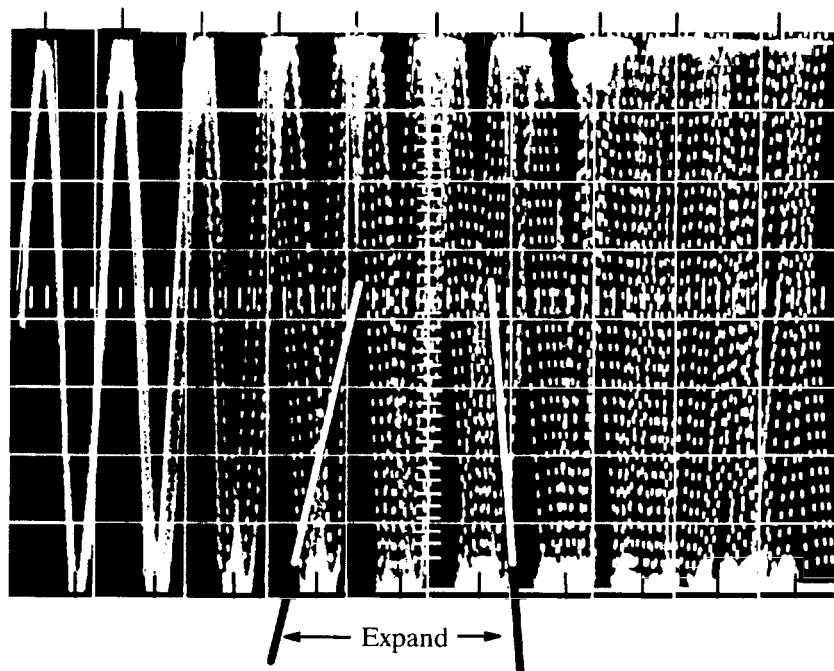
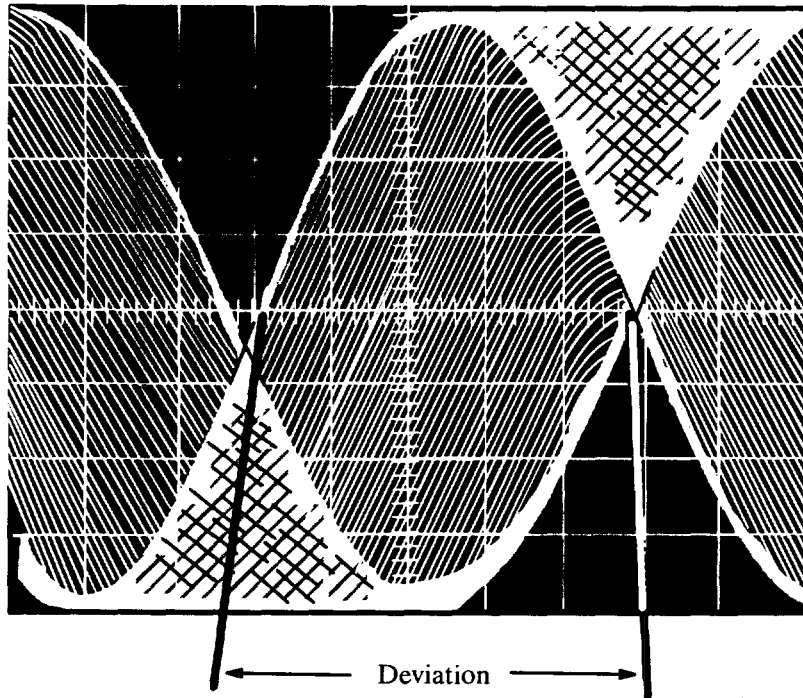

Figure 1. FM Deviation Display
Figure 2. 9960 Hz Deviation (Expanded)
- 4.5.17 Adjust the oscilloscope trigger and position controls to vertically center the TI 9960 Hz signal on the oscilloscope CRT display, and position the sweep trigger point at the left edge of the horizontal center line. (See Figure 1.)
- 4.5.18 Use the oscilloscope delayed sweep function to expand the portion of the TI signal indicated in Figure 1, with the oscilloscope delayed time base set for  $10 \mu\text{s}/\text{div}$ , such that the display is similar to Figure 2. Verify that the deviation of the expanded display corresponds to delta time ( $\Delta t$ ) =  $48.5 \mu\text{s} \pm 2.4 \mu\text{s}$ .